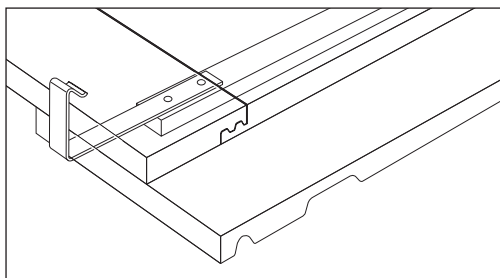

Fig 44 – Verge clip
- When required, nail verge clips to top of battens with upstand level with extreme edge of undercloak (Fig 44).